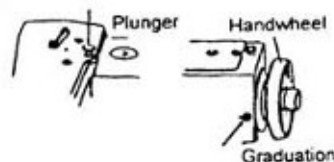

Fig. 10
A. Adjust stitch length (Fig. 10)